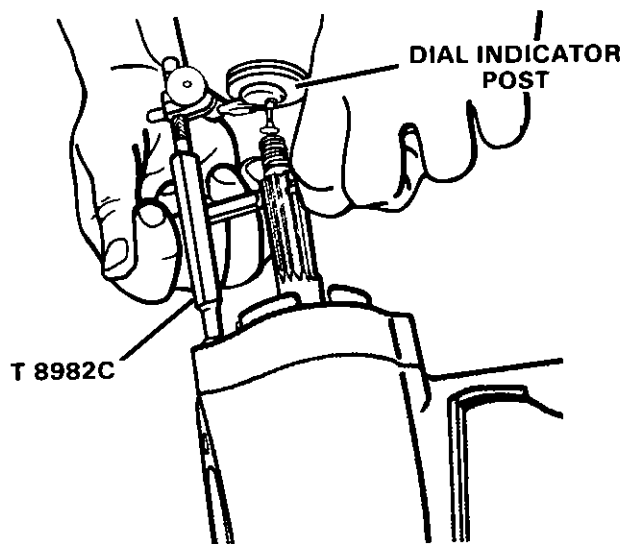

Figure 65. Checking Propeller End Float
- G Install dial indicator post (Special Tool No T 8982C) in upper bearing cage screw hole and one (1) prop shaft bearing cage screw in lower hole. Tighten until snug.
- H Rotate gear housing so that prop shaft is vertical. Install dial indicator holder (Special Tool No T 8901) and dial indicator (Special Tool No T 8902) on dial indicator post T 8982C. Set foot of dial indicator so that it contacts machined surface at end of prop shaft. Figure 65.